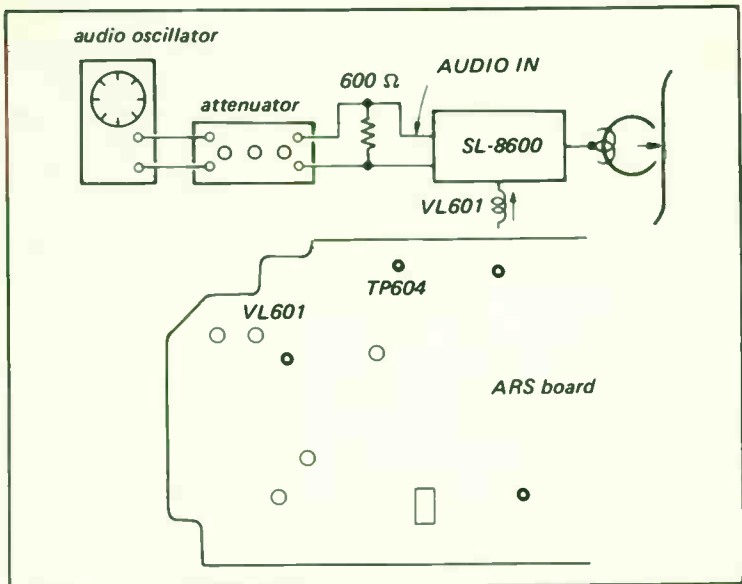

Fig. 4-25. Bias trap adjustment test setup and locations.
- 4—Adjust VL601 for minimum bias leak value. Minimum level below 0.5 volt P-P. See Fig. 4-25 for test setup and adjustment locations.